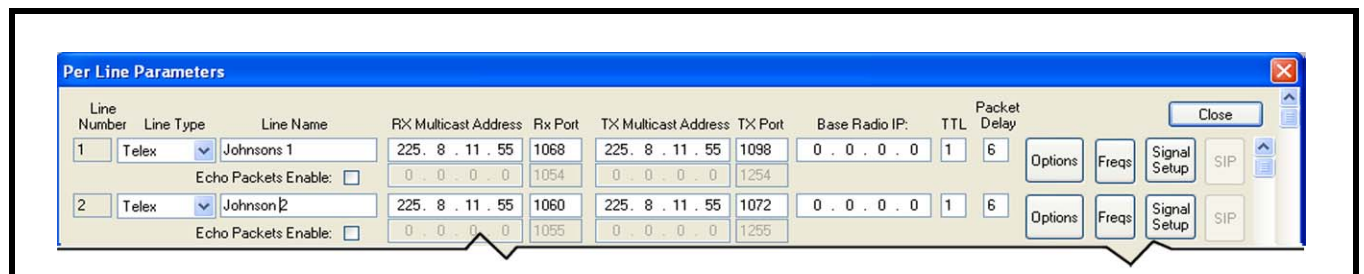

FIGURE 10. C-Soft Per Line Setup
An example, shown in Figure 10, has two (2) lines set up for the radio control.